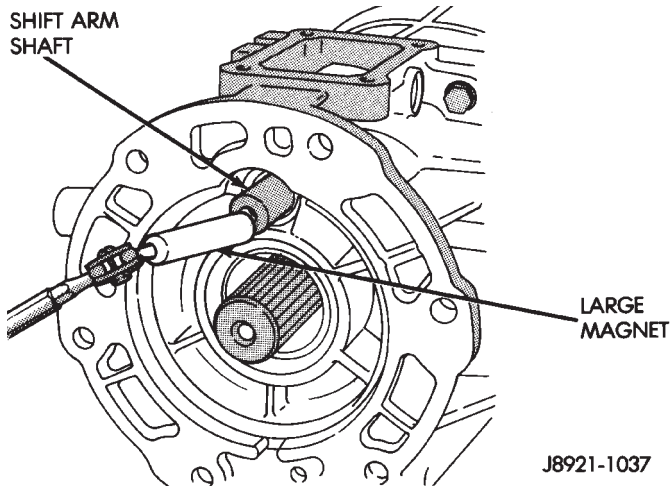

Fig. 26 Remove Shifter Shaft
- (13) Remove shifter shaft with large magnet (Fig. 26).
- (14) Remove the shift arm from the adapter housing.